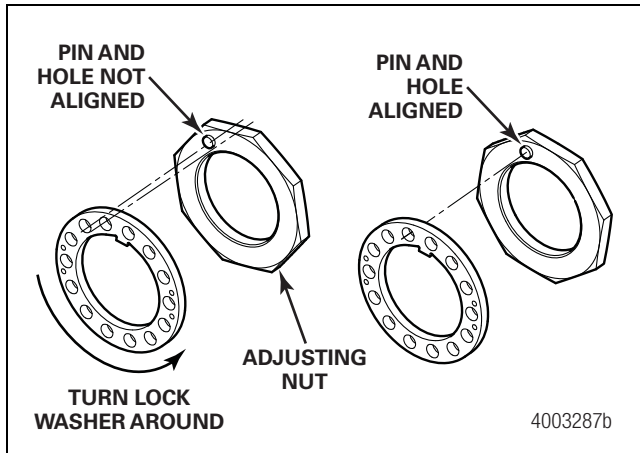

Figure 10.6
4. Install the lock washer. If the hole in the washer is not aligned with the adjusting nut pin, remove the washer, turn it around and reinstall. The pin and hole should now be aligned. If not, slightly adjust the parts to align them. Figure 10.6.